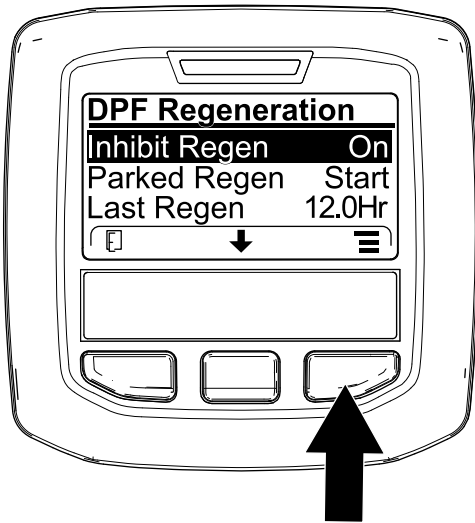
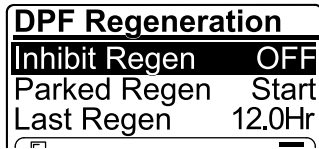

Figure 40
Figure 41
1. Access the DPF Regeneration menu, press the center button to scroll down to the INHIBIT REGEN option, and press the right button to select the Inhibit Regen entry (Figure 40).
- Press the right button to change the inhibit regeneration setting from On to Off (Figure 40) or from Off to On (Figure 41).